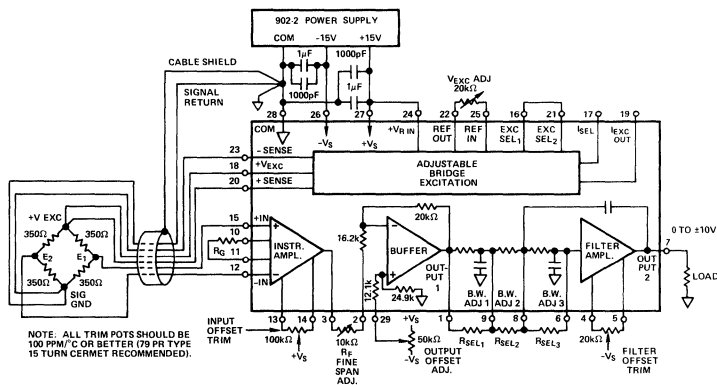

Figure 1. Typical Bridge Transducer Application Using 2B31
Figure 1 illustrates the 2B31 wiring configuration when used in a typical bridge transducer signal conditioning application. A recommended shielding and grounding technique for preserving the excellent performance characteristics of the 2B30/2B31 is shown.
Models 2B30/2B31 have been conservatively specified using min-max values as well as typicals to allow the designer to develop accurate error budgets for predictable performance. The error calculations for a typical transducer application, shown in Figure 1 (350 $\Omega$  bridge, 1mV/V F.S., 10V excitation), are illustrated below.
where RG is the input stage resistor shown in Figure 1 and RF is the variable 10kΩ resistor in the output stage. For best performance, the input stage gain should be made as large as possible, using a low temperature coefficient (10ppm/°C) RG, and the output stage gain can then be used to make a ±20% linear gain adjustment by varying RF.
**Input Offset Adjustment:** To null input offset voltage, an optional 100kΩ potentiometer connected between pins 13 and 14 (Figure 1) can be used. With gain set at the desired value, connect both inputs (pins 12 and 15) to the system common (pin 28), and adjust the 100kΩ potentiometer for zero volts at pin 3. The purpose of this adjustment is to null the internal amplifier offset and it is not intended to compensate for the transducer bridge unbalance.
**Output Offset Adjustment:** The output of the 2B30/2B31 can be intentionally offset from zero over the ±10V range by applying a voltage to pin 29, e.g., by using an external potentiometer or a fixed resistor. Pin 29 is normally grounded if output offsetting is not desired. The optional filter amplifier offset null capability is also provided as illustrated in Figure 1.
**Filter Cutoff Frequency Programming:** The low pass filter cutoff frequency may be increased from the internally set 2Hz by the addition of three external resistors connected as shown in Figure 1. The values of resistors required for a desired cutoff frequency, fc, above 5Hz are obtained by the equation below: